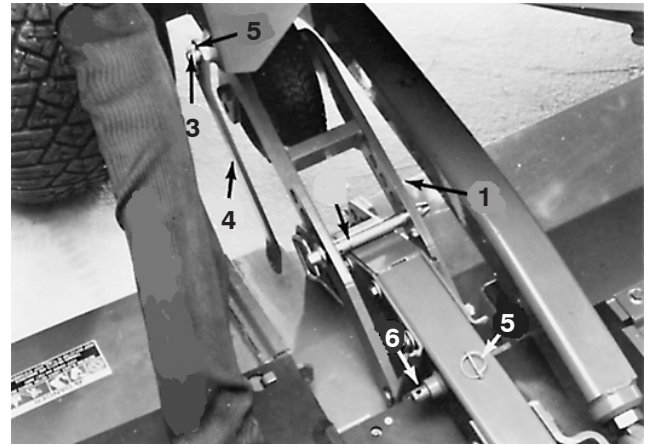

Figure 63
5. Fit deck tilt link over weldment on the right side of traction unit and secure with klik pin. Position link so it clears when cutting unit is raised. Keep remaining klik pin handy to secure opposite end of link to cutting unit arm weldment (Fig. 63).